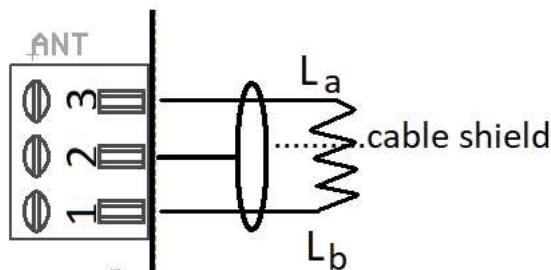

Figure 4: Connecting an antenna
Connect the loop to the outer clamps (1 and 3) of the antenna terminal. The middle clamp (2) of the antenna connector is foreseen to connect the cable shield wire to ground. For the case the cable shows no shield wire, clamp 2 is not in use. Please refer to **Figure 4**.